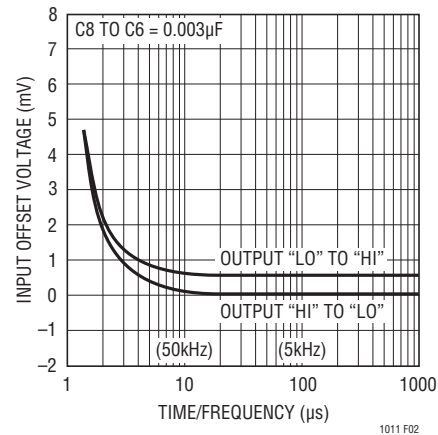

Figure 2. Input Offset Voltage vs Time to Last Transition
This circuit is especially useful for general purpose comparator applications because it does not force any signals directly back onto the input signal source. Instead, it takes advantage of the unique properties of the BALANCE pins to provide extremely fast, clean output switching even with low frequency input signals in the millivolt range. The $0.003\mu\text{F}$ capacitor from Pin 6 to Pin 8 generates AC hysteresis because the voltage on the BALANCE pins shifts slightly, depending on the state of the output. Both pins move about 4mV . If one pin (6) is bypassed, AC hysteresis is created. It is only a few millivolts referred to the inputs, but is sufficient to switch the output at nearly the maximum speed of which the comparator is capable. To prevent problems from low values of input slew rate, a slight amount of DC hysteresis is also used. The sensitivity of the BALANCE pins to current is about 0.5mV input referred offset for each micro-ampere of BALANCE pin current. The 15M resistor tied from OUTPUT to Pin 5 generates 0.5mV DC hysteresis. The combination of AC and DC hysteresis creates clean oscillation-free switching with very small input errors. Figure 2 plots input referred error versus switching frequency for the circuit as shown.